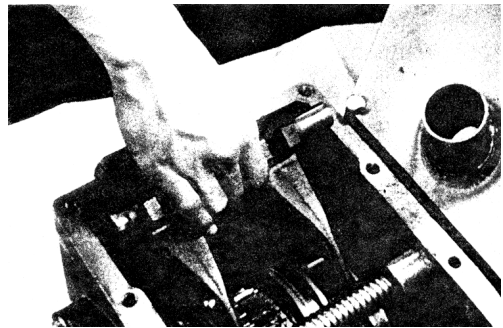

Fig. 3-20
(8) Remove the shift forks together with the shift rod.
**Note: Take down the position of the shift forks then. (See Fig.3-20)**